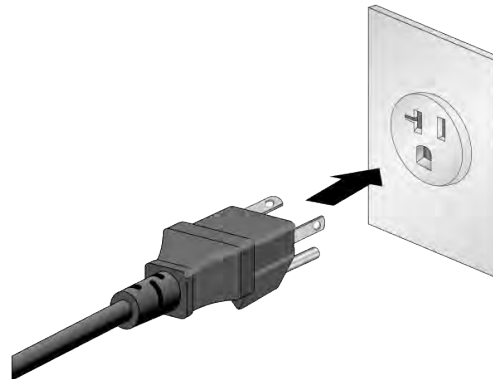

Figure 58. Connecting the Power Cord to an AC Power Source
3. Connect the power cord to an appropriate AC power source. Refer to Figure 58.